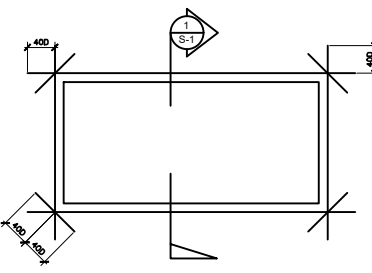

FIGURE 24
- CARRY VERTICAL BARS AT LEAST 600mm ABOVE FLOOR LEVEL TO PROVIDE FOR SPLICES WHEN NECESSARY. STOP AT 50mm BELOW TOP OF THE SLAB OR SOLID BAND WHERE THE WALLS END. HORIZONTAL AND VERTICAL BARS SHALL BE SPLICED BY LAPPING A DISTANCE EQUAL TO 40 DIAMETER AND WIRED SECURELY WITH NO. 15 G.I. WIRE PROVIDED THAT SPLICES IN ADJACENT BARS ARE STAGGERED AT LEAST 1520mm ON CENTER. (See FIGURE 24)
- UNLESS OTHERWISE NOTED IN THE PLANS, ALL OPENINGS IN WALLS 250mm OR THICKER SHALL BE REINFORCED AROUND WITH 2-20mm BARS, FOR 225mm - 200mm - 175mm - 150mm THICK WALLS, USE 2-16mm BARS. FOR 125mm THICK WALLS, USE 2-12mm BARS. (See FIGURE 24)
- ALL WALL OPENING SHALL HAVE VERTICAL REINFORCEMENT BENT TO A U-FORM LIKE STIRRUPS AND SPACED ACCORDING TO THE SCHEDULE UNLESS OTHERWISE NOTED. (REFER TO SECTION 1 ON FIGURE 24)